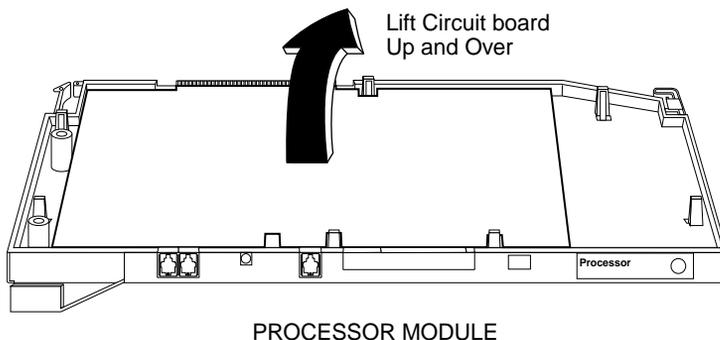

Figure 9-6. Removing the Processor Module Circuit Board
- ▶ 6. Holding the processor circuit board at each end, lift it up and turn it over and away from you. See Figure 9-6.